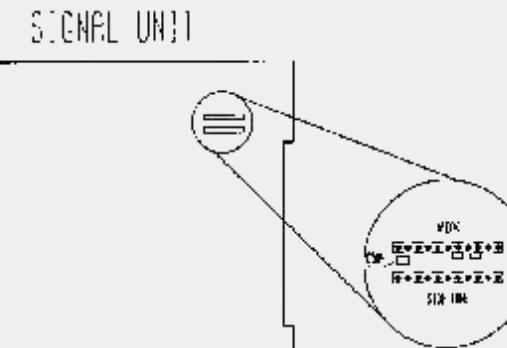

FIGURE 2
7. Locate chic capacitor C504 on the bottom of the board (see figure 2). If required, refer to the service manual board diagrams for details.